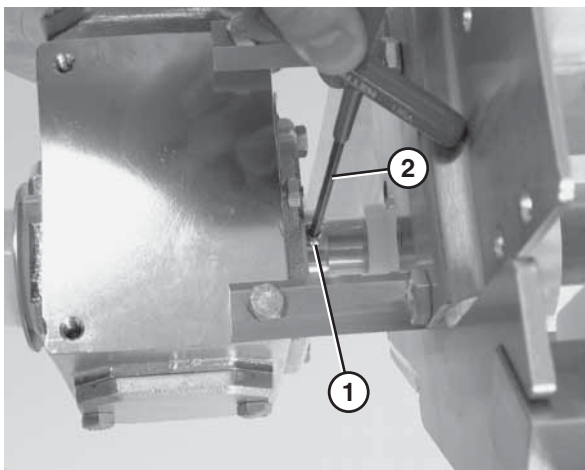

Figure 30
4. Loosen the drive spindle fasteners (Figure 30, item 1) located on the inside and outside of the gearmotor assembly using a hex wrench (Figure 30, item 2).